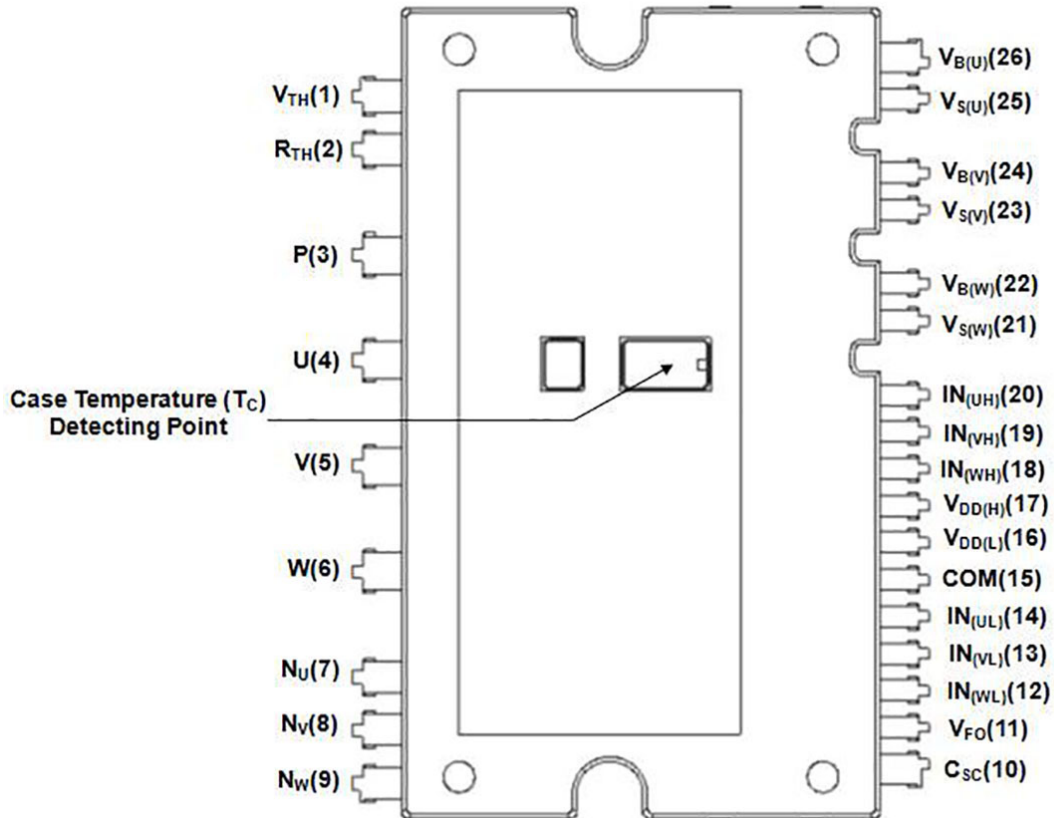

Figure 1. Top View
| T_C | Module Case Operation Temperature | See Figure 1 | -40 ~ 125 | $^\circ\text{C}$ |
5. For the measurement point of case temperature (T_C), please refer to Figure 1.